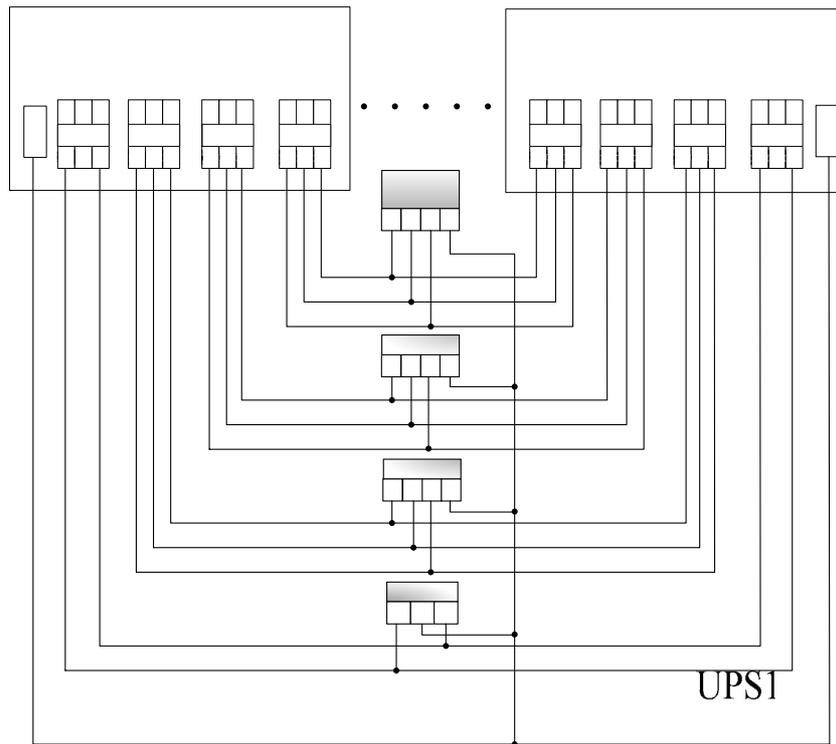

Figure 4.1 Connection Chart of Paralleled Machines
1. Connect the main power input, bypass input, output and battery of UPS which is ready for parallel according to figure 4.1, and then connect to the main power, bypass, battery (only connect the battery in parallel for standard machine) and load.